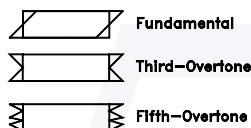

Fig. 8
**Vibration modes:** The crystal vibrates and produces a steady signal when it is excited with a voltage. The mode of vibration depends on crystal cuts such as thickness shear for AT and BT cuts, length-width flexure for tuning fork, Face shear for CT, DT cuts, etc. Figure 8 shows a thickness-shear mode.